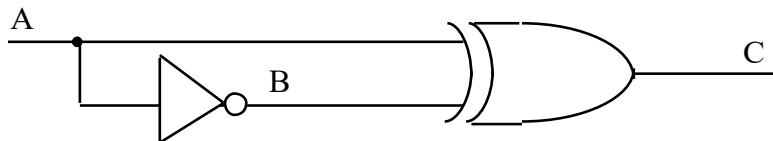
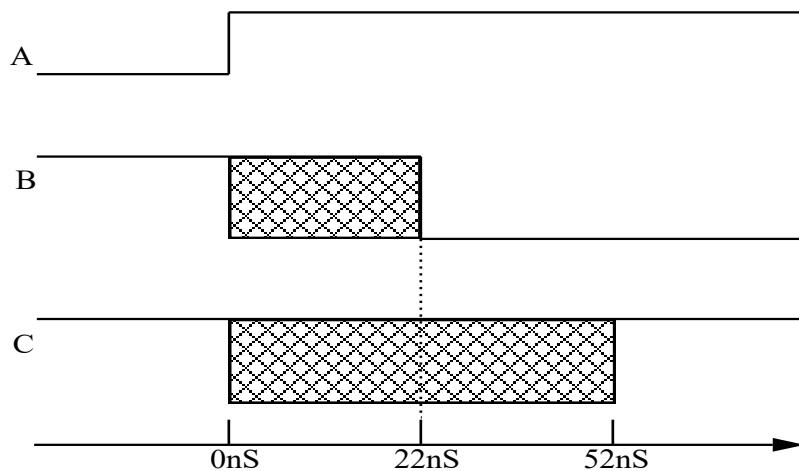

FIGURE 10
FIGURE 11
The circuit of Figure 10 should always output a logic one at C as it implements the steady-state logic equation $C = A \oplus \bar{A} = 1$. However, due to the finite delays of the gates used, it may momentarily output a logic zero (a glitch) right after the input A changes. The inverter in the circuit of Figure 10 is from a 7404 chip. The 7404 has a typical propagation delay of 10ns, and a guaranteed maximum delay of 22ns. The exclusive-or gate (7486) has a typical delay of 14ns and a maximum of 30ns. Note that neither of these gates has a guaranteed minimum delay time; therefore, the assumed minimum delay is zero. When preparing a timing diagram always use the worst-case propagation delays, not the typical!
A timing diagram for the circuit of Figure 10 is given in Figure 11. At time $T = 0$, the input A changes from a zero to a one. The output of the inverter (B) is unknown from time $T = 0$ until time $T = 22$ ns. The value of B probably changes somewhere around 10ns (the typical delay time), but the output cannot be guaranteed until $T = 22$ ns. Since B is an input to the XOR gate, its output cannot be guaranteed until 30ns (maximum propagation delay) after the value of B is known. The cross-hashed areas in the timing diagram are the times when the signal value is unknown. The XOR output, C, is unknown for 52 ns after the input A changes. During those 52 ns, the output may be at logic zero or logic one. If it becomes a logic zero at any instance during these 52ns, then the circuit is said to produce a glitch.